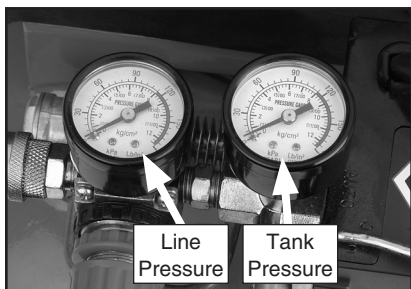

Figure 6. G0466 Pressure gauges.
7. Check the tank pressure gauge (**Figures 6 and 7**) to see that the tank pressure climbs to approximately 115-120 PSI (around 8 BAR) and turns **OFF**.